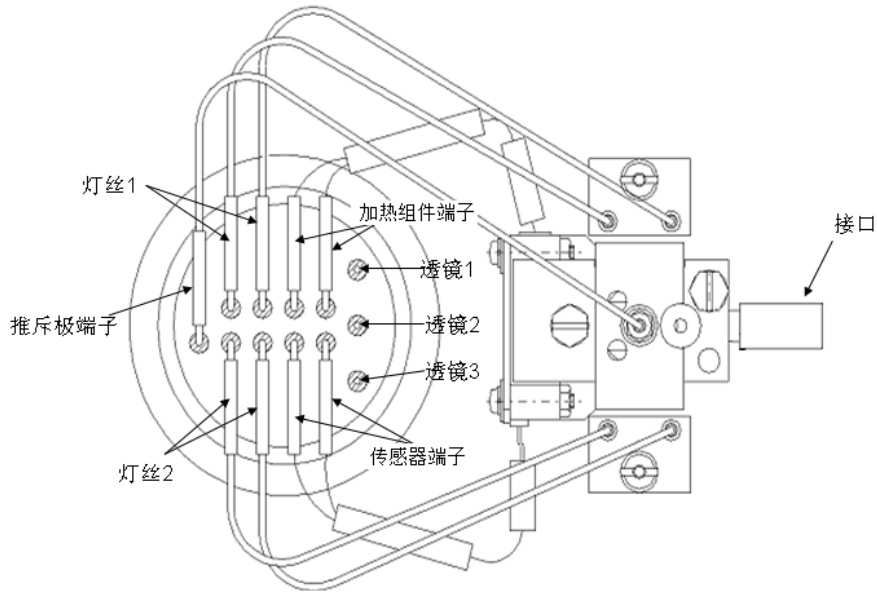

Figure 2-9 Ion source
3. Use the tweezers wiped by acetone to take off the filament lead terminal (see Figure 2-9).